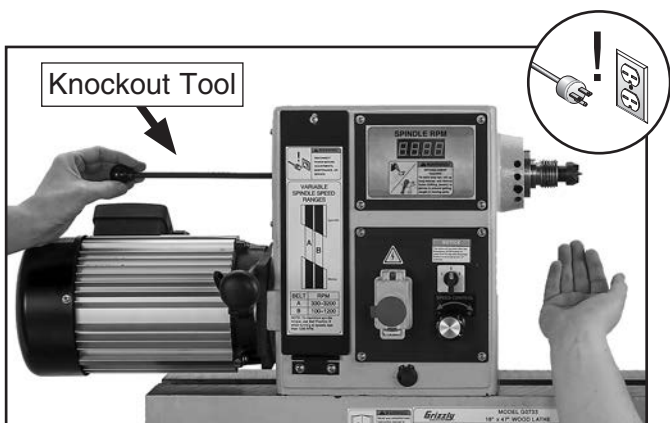

Figure 26. Removing the headstock center.
3. Insert the knockout tool through the outbound end of the spindle and firmly tap the back of the center, catching it as it falls, as shown in **Figure 26**.